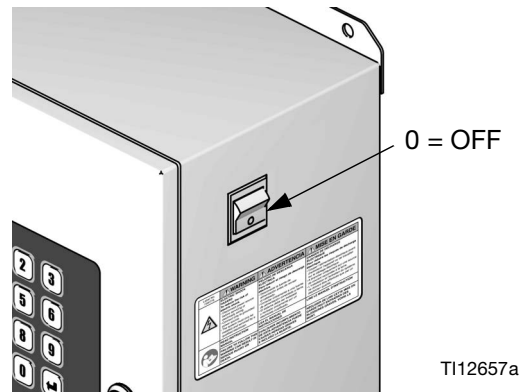

FIG. 14: Power Off
3. Shut off ProMix 2KS power (0 position). FIG. 14.